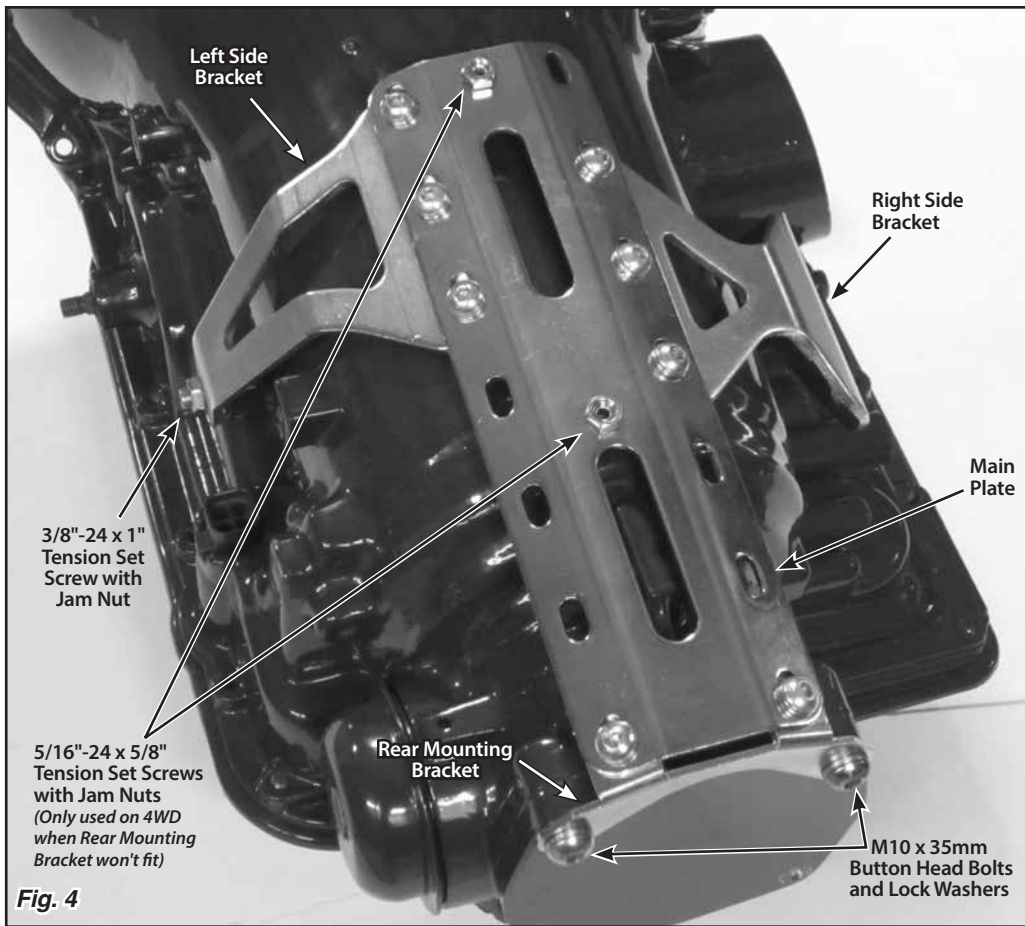

Fig. 4
Step 5: If you are using the rear mounting bracket, remove the top two tail housing bolts from the transmission. Install the mounting bracket assembly onto the transmission by first installing two M10 x 35mm button head bolts with lock washers through the rear mounting bracket and into the transmission at the tail housing. **Fig. 4**
If you have a 4 wheel drive application that will not accept the rear mounting bracket, start the 5/16"-24 x 5/8" tension set screws into the tension set screw holes at the front and in the center of the shifter main plate. Set the mounting bracket assembly into place on top of the transmission. **Fig. 4**